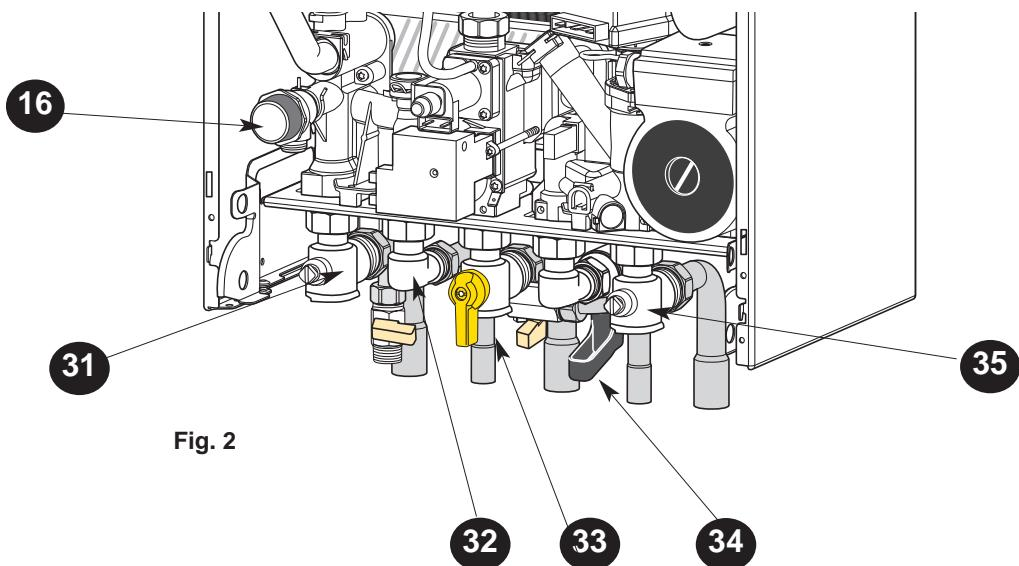

Fig. 2
Connecting bracket Taps shown in Open position (Fig. 2)
Starting up (Fig. 2)
3. Ensure that the appliances gas inlet tap is open 33 (Fig. 2).
In some circumstances, it is possible that the pipes (and possibly a radiator) heat up slightly after hot water is drawn. To prevent this, simply close the central heating flow tap 31 (Fig. 2).